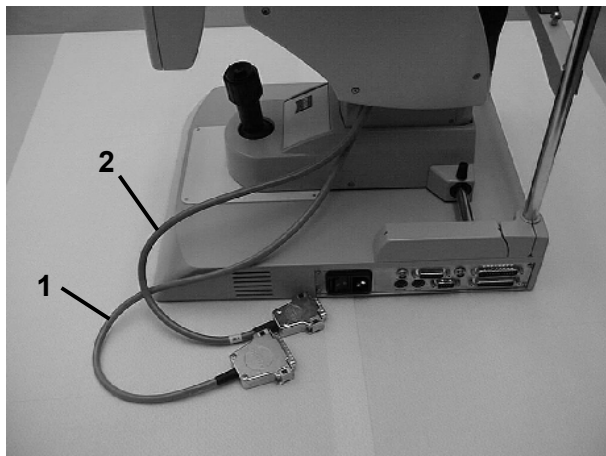
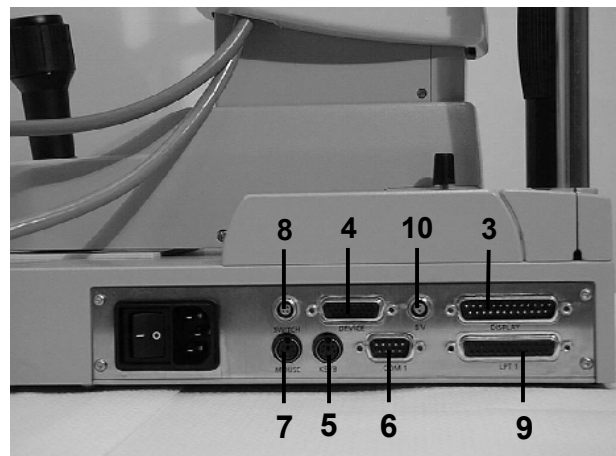

Fig. 2a
Fig. 2b
- Connect two cables ((1) Fig. 2a) and ((2) Fig. 2a) from the measuring head to the appropriate connectors ((3) Fig. 2b) and ((4) Fig. 2b) and tighten screws.
- Place the keyboard to the right of the unit on the instrument table or on the support for the keyboard. Pull the cable through the opening in the table top and fasten it to the bottom of the table top. Connect the keyboard cable to socket ((5) Fig. 2b) and the mouse cable either to serial interface ((6) Fig. 2b) or, using the adapter supplied, to socket ((7 Fig. 2b).
- If included in the delivery package, connect the foot switch to socket ((8) Fig. 2b) and the printer to connector ((9) Fig. 2b). If necessary, route the cable through the opening in the table top and fasten it to the bottom of the table top.